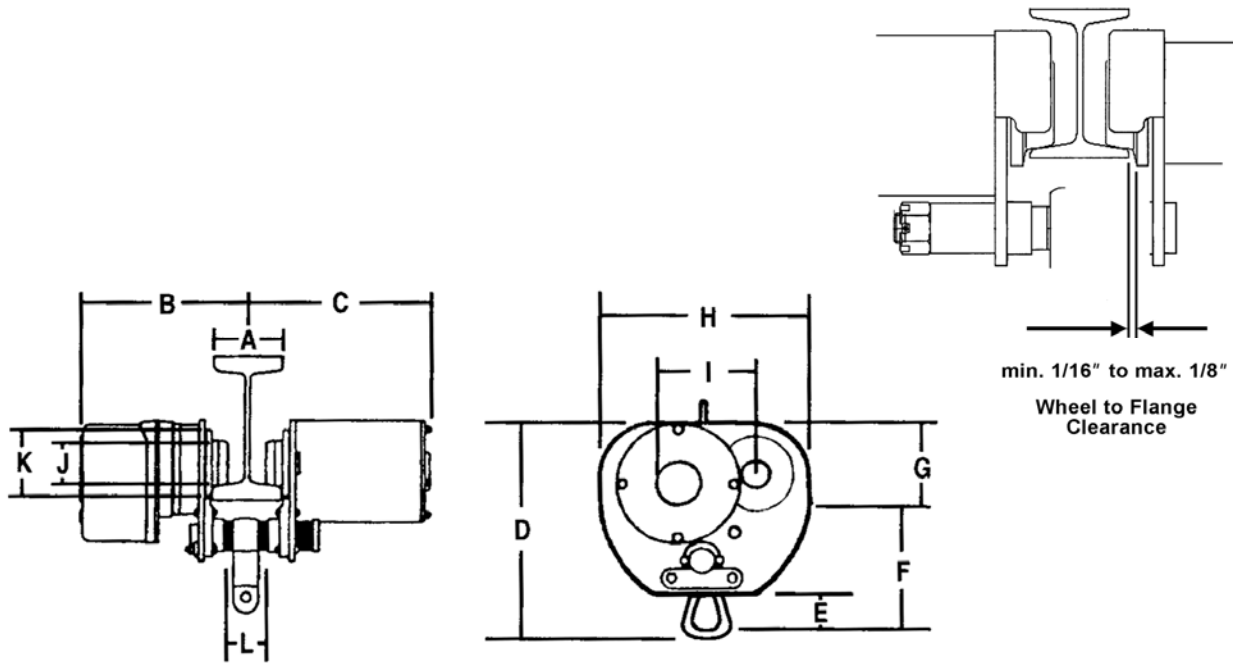
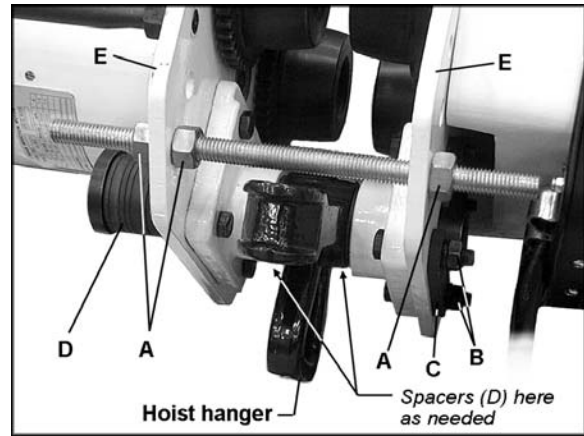

Figure 1
Figure 2
1. Loosen the hex nuts (A, Figure 2) on the adjusting screw, and remove the adjusting screw.
2. Remove the two hex nuts (B, Figure 2) with the plate (C, Figure 2).
3. Slide out the suspension shaft with the spacers (D, Figure 2).
4. Assemble the trolley to the beam. The trolley must be installed on a beam with a minimum clearance (wheels to flange) of 1/16" to a maximum of 1/8" on each side of the beam (see Figure 1, page 5). Position the side plates (E, Figure 2) to achieve this measurement on your beam.
5. Re-install the suspension shaft, while using the spacers (D) to achieve the required width. Spacers **must** be moved in sets of two, placing equal numbers on both sides of the hoist hanger to maintain the centerline of the trolley. Place any extra spacers on the outside of the shaft, as shown in Figure 2.